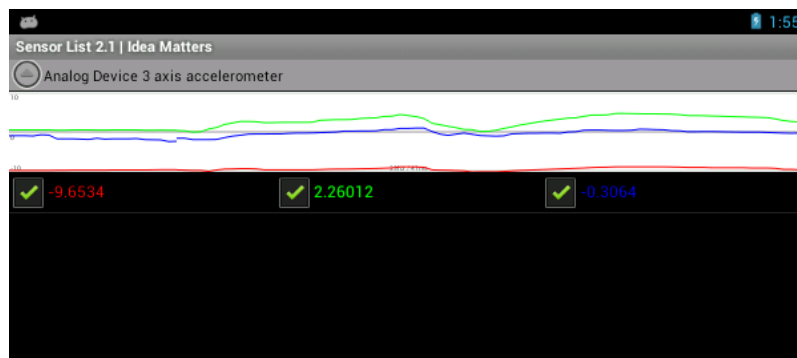

Figure 4 Real-time acceleration curve
(1) Gravity sensor can be tested by whirling the screen.
(2) Run SensorList App, in the option “Analog Device 3 axis accelerometer”, You can see real-time changes of the three axis acceleration value curve, like Figure 4.